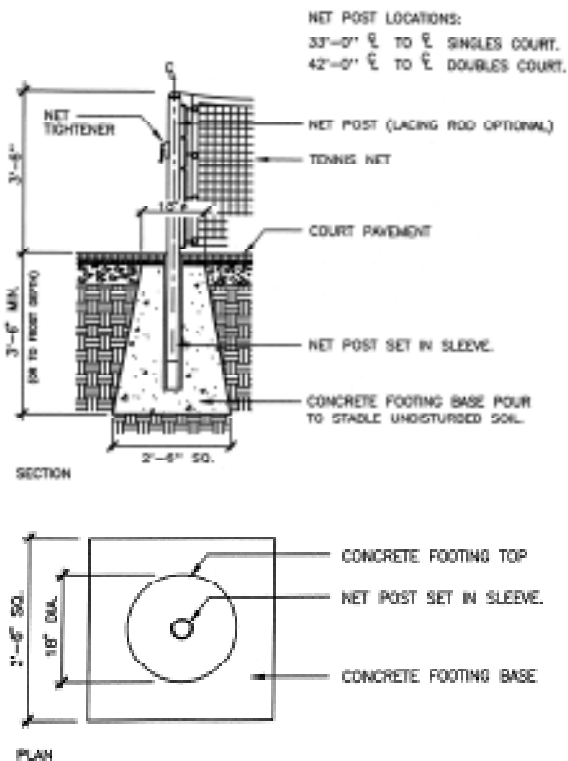

FIG 2.
2. Position the sleeves* in the ground at the correct locations for your court and insert the posts. When installing posts, make sure they will rest no higher than 1" above the net cord, at a height of about 3'-6" above the court surface. The footings should be a minimum of 3'-6" below surface or to the frost depth of your area. (FIG. 2)